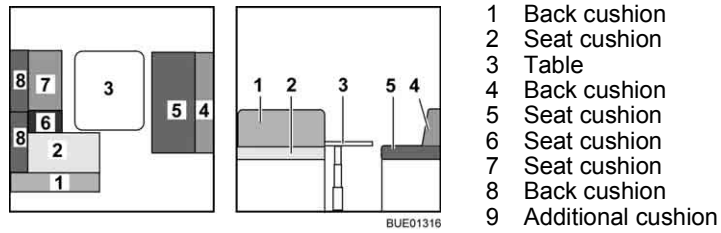

Fig. 142 Prior to conversion
- Convert the table (Fig. 142,3) to a bed foundation (see section 6.10).
- Remove the back cushions (Fig. 142,1, 4 and 8) and lay them aside.